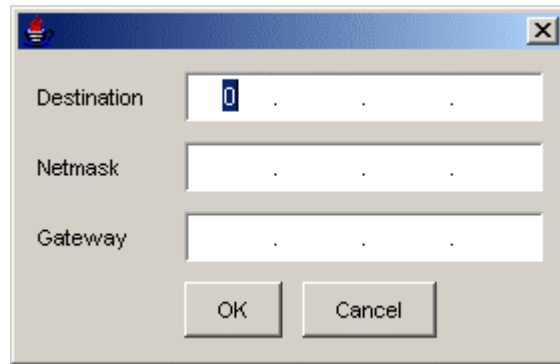

Figure 5-42. Adding a Route Table
2. To add a route to the routing table, click the **Add** button. Then, when the dialog box in Figure 5-42 appears, complete the fields and click **OK**. As you add route entries, record the information in Table D-6 on page 172.